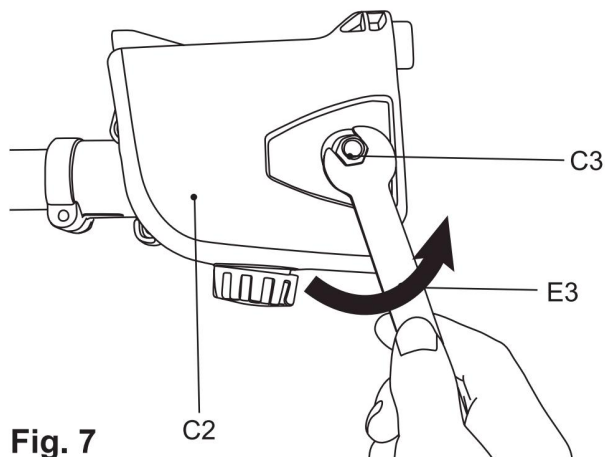

Fig. 7
- 3) Unscrew in counter-clockwise direction the retaining nut (C3) with the assembly wrench (E3) and then remove the side cover (C2). (Fig.7)